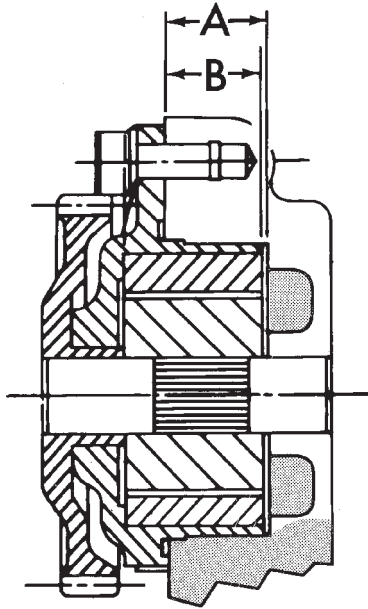

Fig. 114 Oil Pump Bore Depth
(31) Install the oil pan. Refer to oil pan removal and installation in this section.
(32) Install the vacuum pump, being careful to align the gear timing marks with those on the crankshaft gear. Torque screws to 20 N·m (15 ft. lbs.).
(33) Before installing the oil pump check pump bore depth in block (A) and pump body height (B) (Fig. 114). Difference between A and B should be 0.020-0.082 mm (.0007 to 0032 in.).